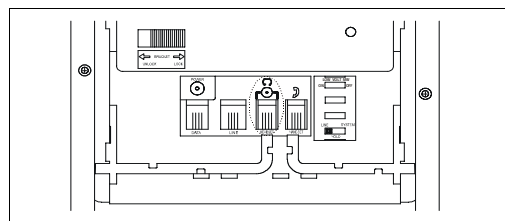

Figure 1
- Plug the modular end of the headset cord into the modular port of the telephone labeled “HEADSET” (figure 1).